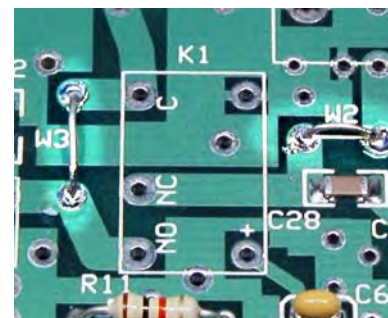

Figure 19. Installing W2 and W3 for split path (separate transmit and receive antenna) operation. Do NOT Install Relay K1
- Use discarded leads to form jumpers across W2 and W3 near the outline for K1 as shown in Figure 19. Solder them in place.